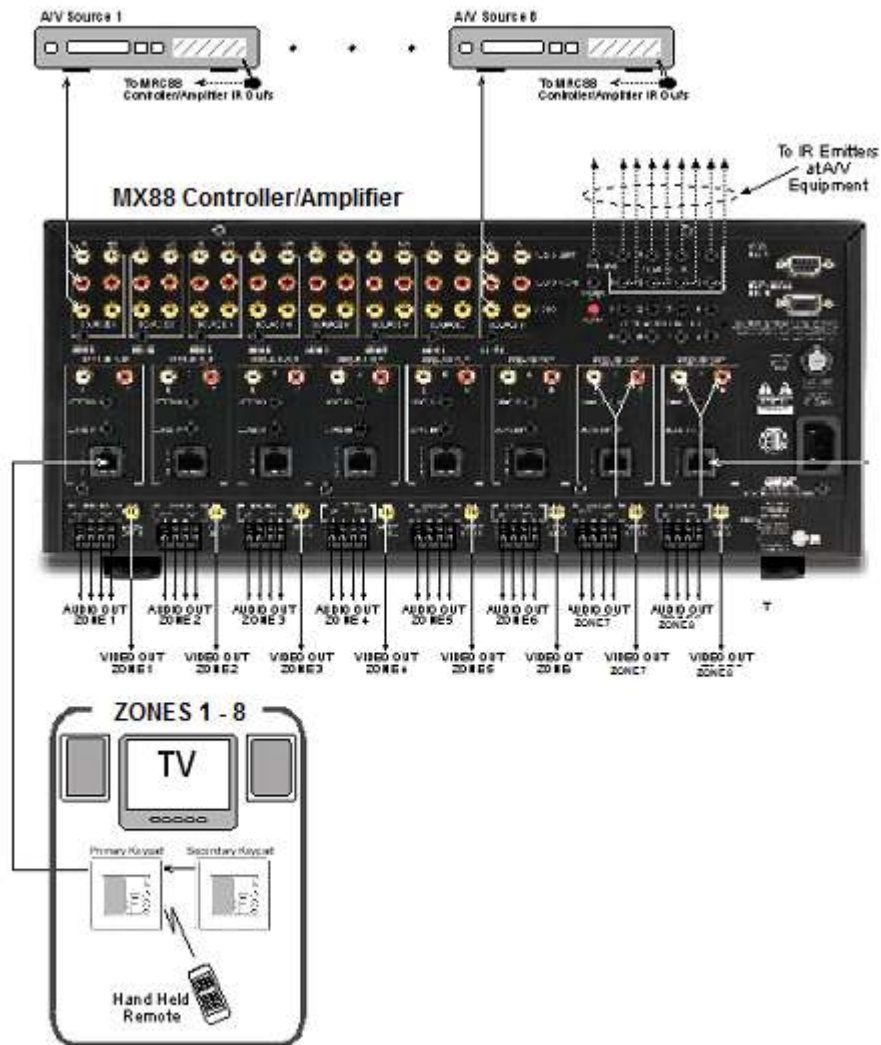

Figure 6 –Typical 8-Zone MX88 System
- If no MX88-compatible wired keypads or touch-panels are used in a particular zone, IR Receivers and/or IR based Keypads may be used as shown in **Figure 6** below, using the MRC44CB1 Connecting Block. This set up works for:
To better demonstrate the ease and versatility of programming the MX88, **Figure 6** will be used to illustrate setup for a typical application.
4. Assemble the components into a working MX88 system such as that shown in **Figure 6 or 7**.